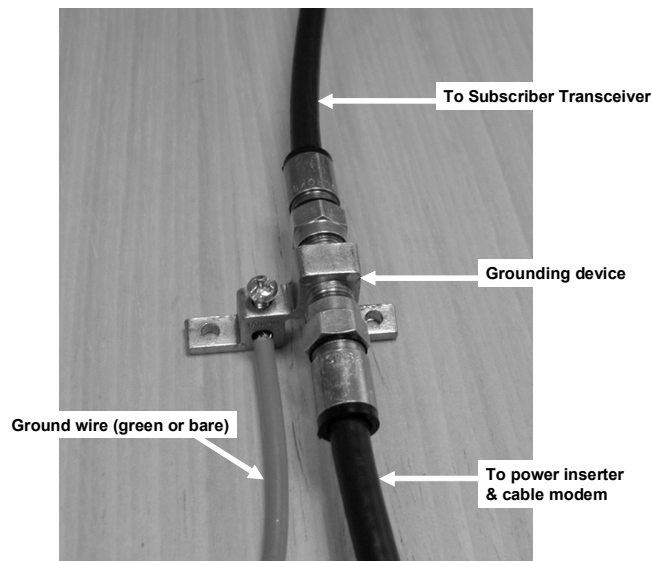

Figure 4-4: Grounding device at subscriber premises
- ☞ Mount a CATV system standard grounding device in Figure 4-4 as close as possible to the point of cable entry into the building. Connect the grounding device to a suitable “grounding electrode” as required per local building codes.³
-  Connect the cable modem to the modem side of the DC power inserter as shown in Figure 4-4 and Figure 4-6. Complete installation of the cable modem using normal procedures.